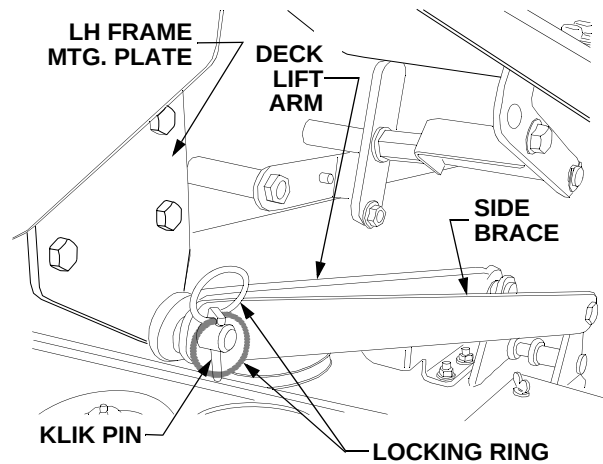

Figure 58
- On each side of the tractor, flip the klik pin locking ring upward and remove the klik pin from the frame mounting plate pin. Slide the side brace and deck lift arms from each frame mounting pin. Reinstall the klik pins to avoid losing. Refer to Figure 58.
- Slide the deck lift arms and side braces onto the pins of the LH and RH frame mounting plates. Insert a klik pin through the hole of each frame mounting plate pin. Flip the locking rings downward and over the ends of the mounting plate pins to lock the klik pins in place. Refer to Figure 58.